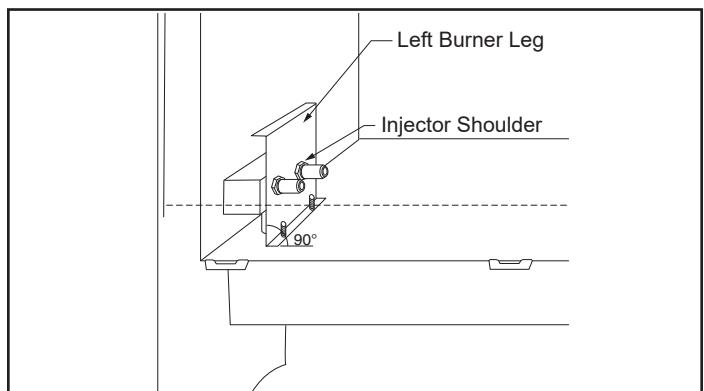

Figure 4.5 - Be sure to maintain 90° angle at left burner leg.
9. Refasten the two nuts and assemble the burner into the unit by sliding the burner in at an angle with the left side lower than the right side. Slide the left side onto the injectors. Lower the right hand side down into place. Make sure the burner is as far left as possible and the injector shoulders are inside the burner. **NOTE:** It is very critical to keep the left burner leg, which holds the injectors, at a 90° angle to the base, Figure 4.5. This keeps the orifices aligned with tubes on the inside of the burner. Failure to do so could affect the flame appearance and performance of the unit.